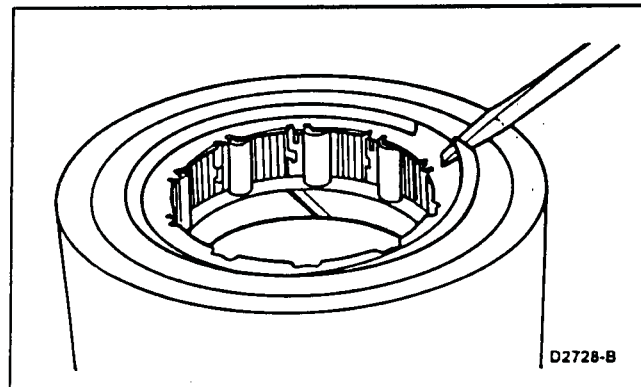

FIG. 34 Bearing and Spring Removal
1. Remove the snap ring (Fig. 34).